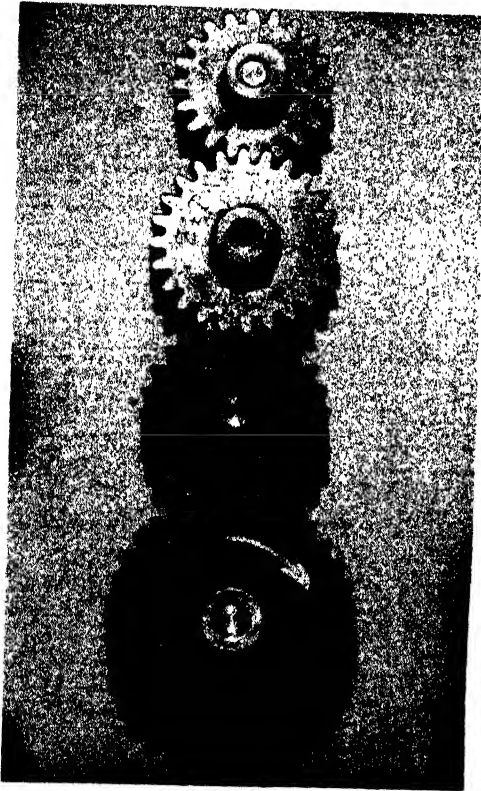

FIG. 133C. SPUR GEARS - TWO IDLERS.
Place two idler gears between the gears (A) and (B). Repeat the tests, marking the direction or rotation (Fig. 133C) with arrows.